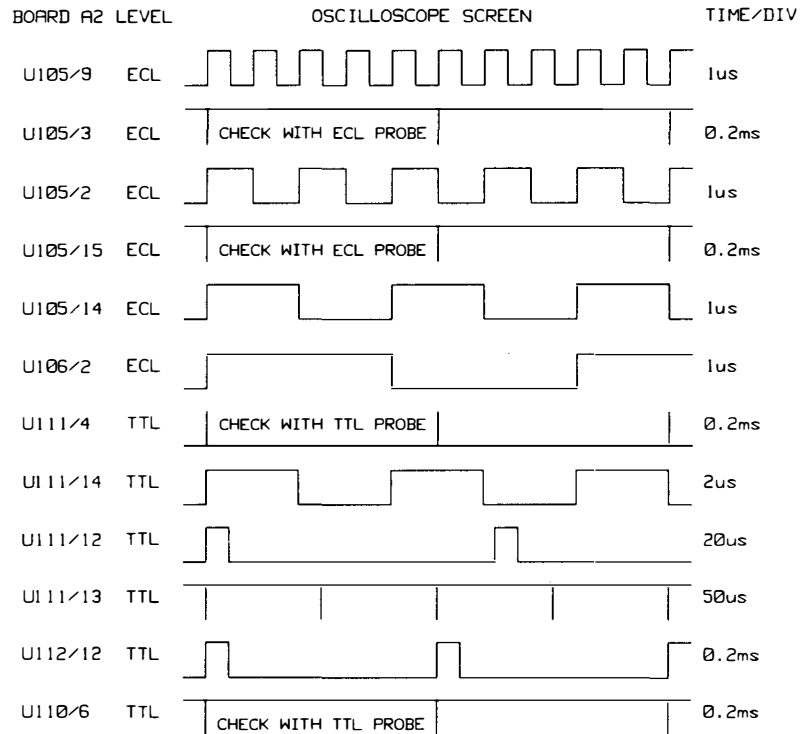

Figure 10.6-3. Burst-counter waveforms and timing
9. Using an oscilloscope and ECL- and TTL-logic probes you can test the burst- counter waveform and timing data against Figure 10.6-3.